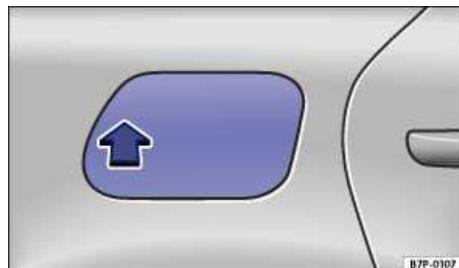

Fig. 305 In the right rear fender: Opening fuel filler flap.
- Push on the fuel tank flap in the right rear fender ⇒ **fig. 305** (arrow) and fold open.